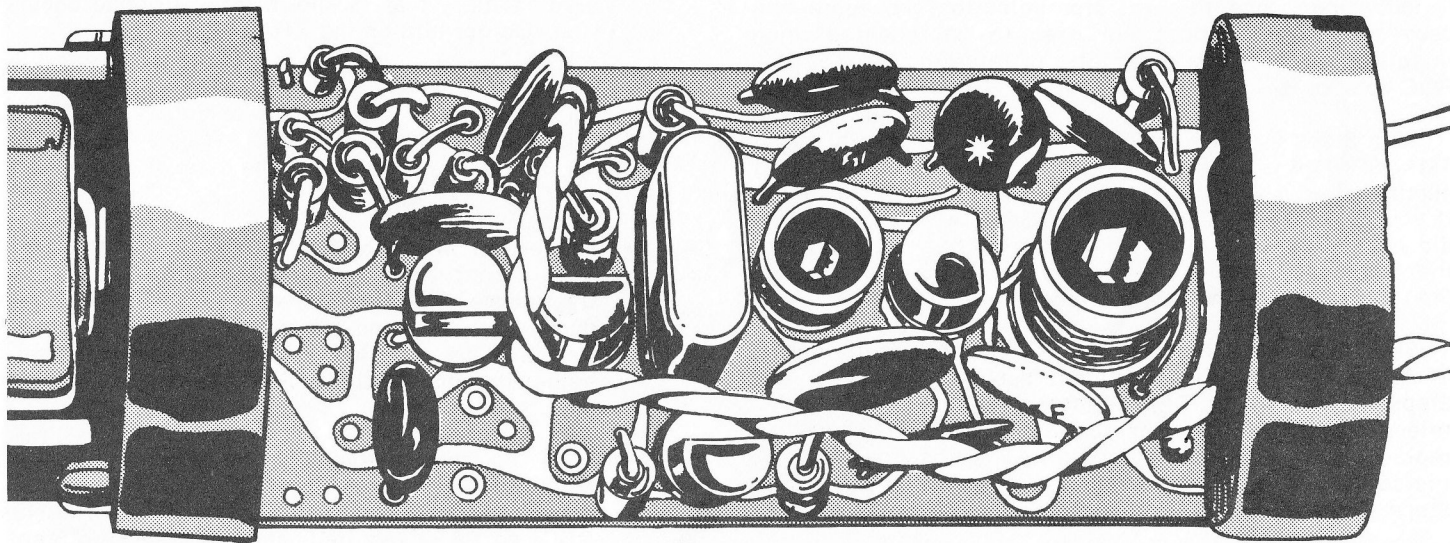

FIG. 2A TOP VIEW, "A" CONFIG, TRANSROC, TEMP. TM MODE
- 13A. ( ) Inspect the completed assembly to verify that it looks like Figure 2A. If Q2, C9, R11 and R12 have previously been added for use of the microphone accessory, they do not need to be removed.